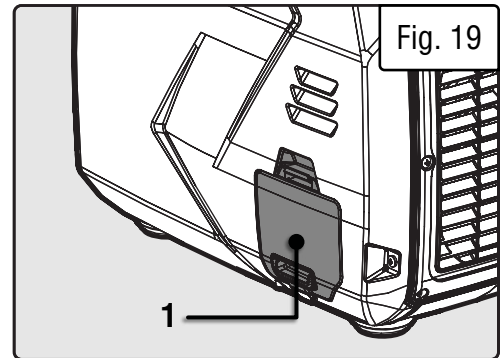
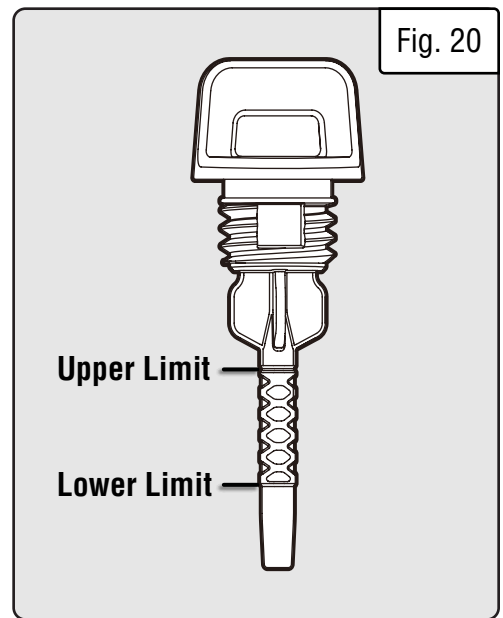

Fig. 19
Fig. 20
2. Open the oil access cover (Fig. 19 - 1). Remove the dipstick (Fig. 20) and wipe it with a clean rag.